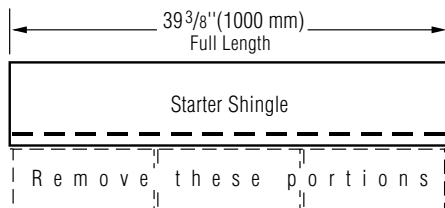

Figure 12-13: Make starter shingles by removing the lower tabs.
1. Use CertainTeed Starter™ (10" x 38³/₄") or a starter course consisting of the shingles from which the lower tabs have been removed (Figure 12-13). Remember, the sealant on starter courses should lay as close as possible to the eaves edge of the roof.
3. Continue with full-length starter-course shingles along the eaves. (Figure 12-13).
1. Use CertainTeed Starter™ (10" x $38\frac{3}{4}$ ") or a starter course consisting of the shingles from which the lower tabs have been removed (Figure 12-13). Remember, the sealant on starter courses should lay as close as possible to the eaves edge of the roof.